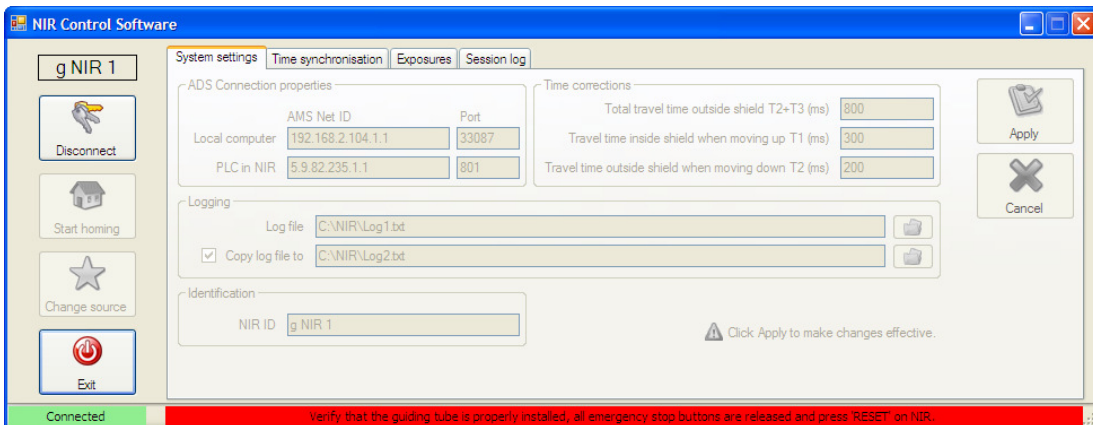

Figure 24: Connecting with the irradiator.
5. When the PC has obtained an IP address, click the Connect button. When connected, the blue RESET button/indicator will illuminate continuously and the NIR Control Software will show "Connected" in the lower left corner of the window (Figure 24).